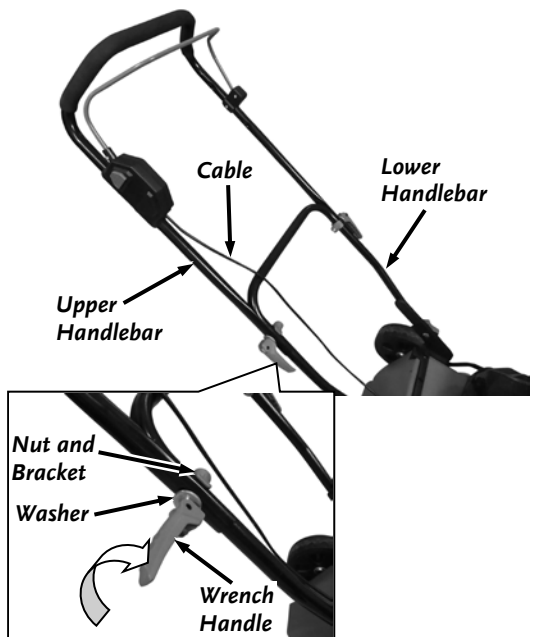

Figure 6
5. Position the Upper Handlebar onto the Lower Handlebar and align the holes (**Figure 6**).